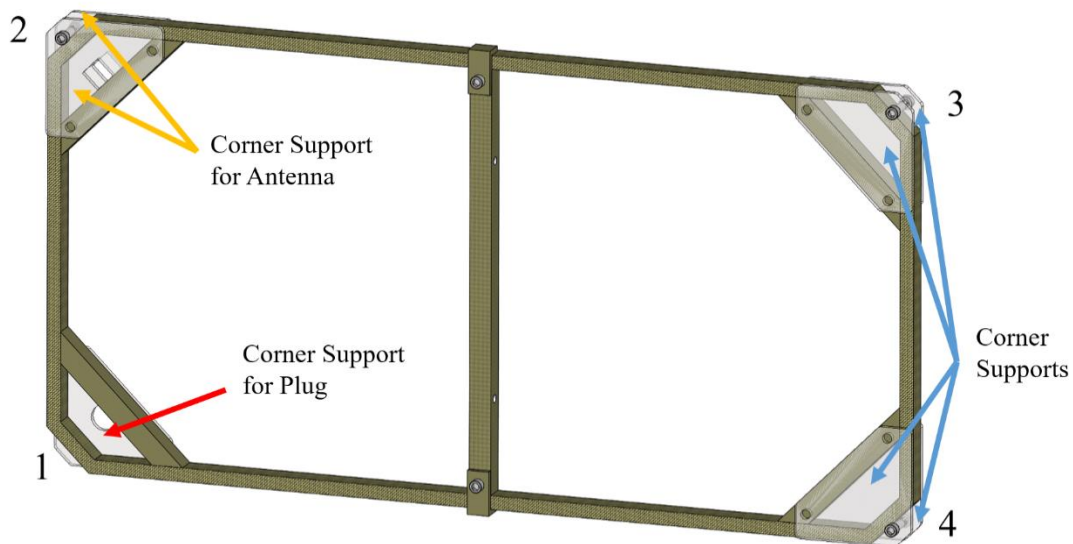

Figure 9.1
3. Epoxy the Corner Supports (PN THBC005), the Corner Support for Plug (PN THBC006), and Corner Supports for Antenna (PN THBC007) to the Large Coil. Corners 3 and 4 as shown in Figure 9.1 will each have two Corner Supports (THBC005) epoxied to them, while corner one will have the one Corner Support for Plug (THBC006) epoxied to it, and corner two will have the two Corner Supports for Antenna (THB007) epoxied to it. One 2" 3/8"-16 bolt (PN OUTS002) and one 3/8"-16 nut (PN OUTS004) will be used to secure each outside corner of the two Supports epoxied to each other for corners 2, 3, and 4. Corner 1 will only have the Corner Support for Plug epoxied to it as shown in Figure 9.1. Ensure that the Coil Support for Plug is epoxied to the back of the coil as it is shown in the configuration below, with the bolt heads being on the opposite side of the coil from the Corner Support for Plug. When the Corner Support for Plug is bolted in later in the process, the nuts should be resting on its surface.